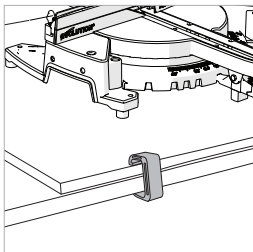

Fig. 2
- Use G-clamps to attach the mounting board to the work surface. **(Fig. 2)**